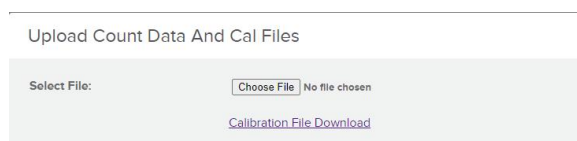

Figure 54: Upload Count Data And Cal Files window
1. Click on **Data Collection** then **Upload Counts/Cal Files**. The **Upload Count Data and Cal Files** window opens (see Figure 54).
- nCounter data require a **Calibration file** for each new lot of Hyb Code. Download lot-specific Calibration files from <http://www.nanostring.com/dspcalibfiles> or directly from the instrument (**Calibration File Download**) (see Figure 54).